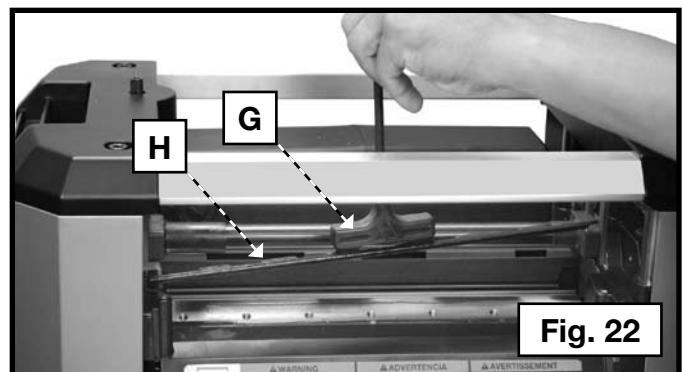

Fig. 22
5. Place the magnetized end of the wrench (G) Fig. 22 at the center of the knife. Lift the wrench until the blade (H) separates from the pins. Remove the knife.